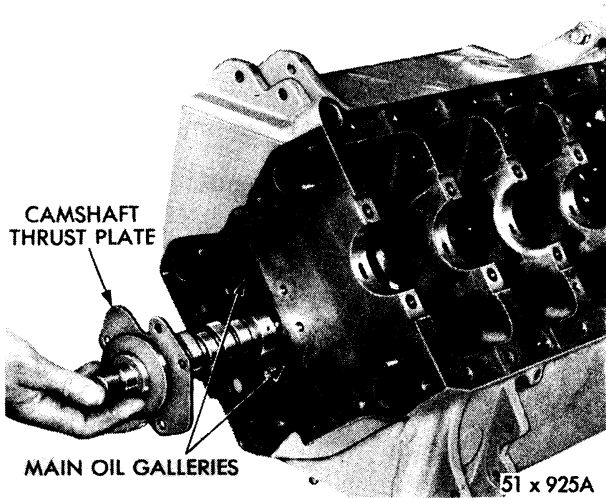
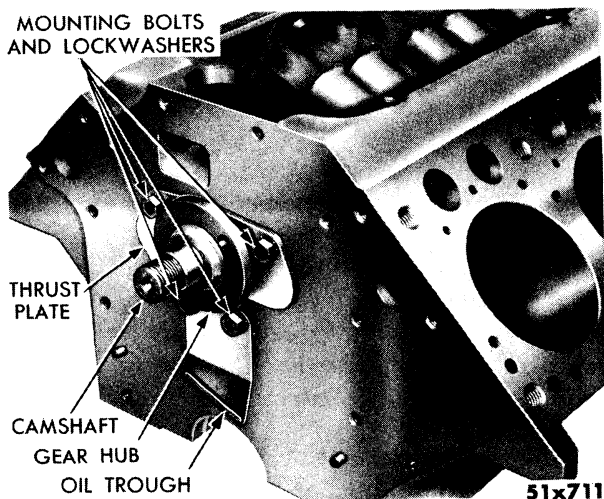

Fig. 21—Installing The Camshaft (Typical)
Fig. 22—Camshaft Thrust Plate and Gear Hub Installed
- (3) Install the camshaft thrust plate on camshaft (if removed), insert key and press on the hub. Insert feeler gauge between hub and thrust plate to check for correct clearance. The clearance should be from .002 to .006 inch.
- (4) Lubricate all camshaft bearings. Install camshaft and thrust plate, as shown in Figure 21. Place the oil trough in position and install bolts and lockwashers. Tighten bolts to 15 foot-pounds torque (See Fig. 22). Do not allow the camshaft lobes to ride on bearings when installing the camshaft, as damage to the bearings will result.